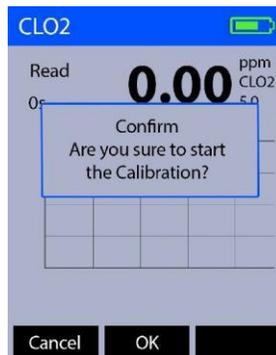

Figure 14.
6. Press **Calib** (OK) to continue with the entered concentration value. The display updates as shown in Figure 14.